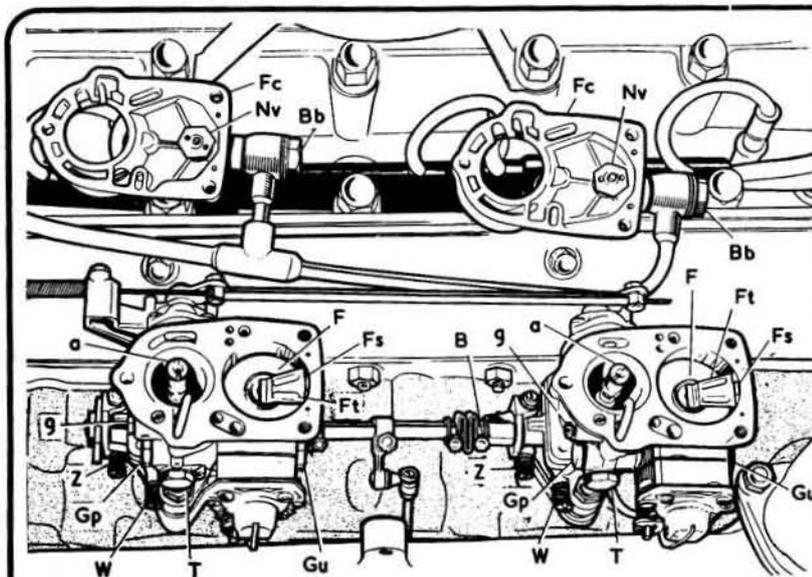

FIG.3.11. VIEW OF CARBURETTORS INSTALLED WITH FLOAT CHAMBER COVERS REMOVED
1 Refer to Fig.3.11. The carburettors can be dismantled to the extent necessary for routine cleaning of jets and the float chamber without removing them from the engine. Proceed as follows.
3 Disconnect the fuel feed pipes to the carburettors by unscrewing the banjo bolts (Bb Fig.3.11) collect the washers and filter gauzes.
3 Each carburettor has two external adjustments, the slow running adjustment screw (Z) Fig.3.11 and the mixture volume control screw (W).
4 Switch off the engine when running temperature is obtained and loosen the clamping bolt (B) Fig.3.11 on the flexible link between the carburettors. Ensure that the mixture control lever in the car is at "RUN", disconnect the mixture control levers at the carburettors and make sure that they are fully forward. Now starting with the front adjust each carburettor separately.
If the engine idles satisfactorily but suddenly fails to respond to throttle opening, the fault will probably lie in the main jets, these should be removed for cleaning. The main jets are assembled in holders the heads of which are clearly marked "Main Jet Holder" (refer to item "T" in Fig.3.11). Remove the jet holder and gripping the head between the jaws of a spanner the jet can be removed with a screwdriver and blown out. Removal of the jet holder will allow the float chamber to drain and this will assist in carrying away any impurities.